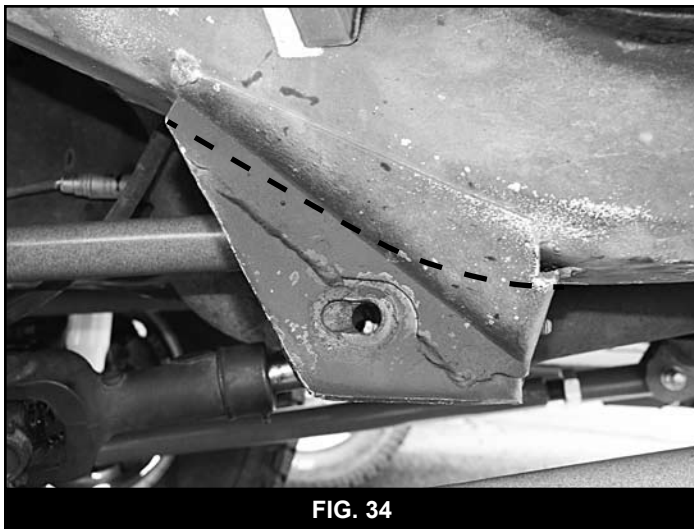

FIG. 34
1. Mark a cut line on the two lower control arm pockets that follow the contour of the frame (Fig 34). Using a reciprocating saw or cut-off wheel remove the pocket from the frame. Take care not to cut into the frame.